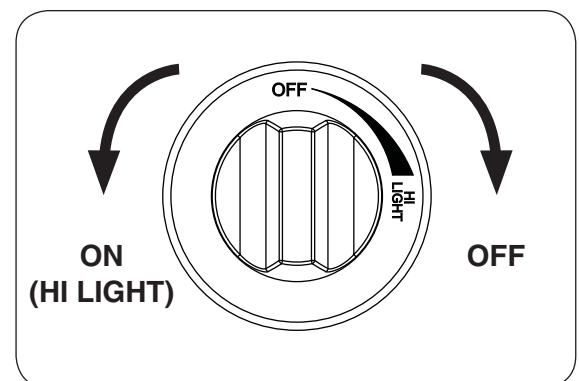

Fig. 21-2
4. **Once the match is burning and in position**, depress the gas control knob and turn it counter-clockwise to the **HI LIGHT** position (see Fig. 21-2). Your burner should light.
**WARNING:** If the burner does not light within five (5) seconds of turning the control knob, immediately depress the control knob and turn clockwise to the **OFF** position.
**To extinguish your gas burner**, depress the gas control knob and turn it clockwise to the **OFF** position (see Fig. 21-2). Be sure the control knob is turned fully off to avoid any gas leakage.